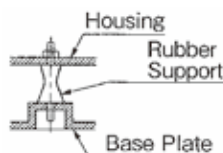

Fig. 9
- 3) Loosen 4 nuts of the Rubber Support and take out 4 Rubber Supports from the Housing. Now the disassembly is completed. (Fig.9)
NOTE: If the Rubber Support is installed, being twisted, the Rubber Support will be quickly damaged. (Fig.9)